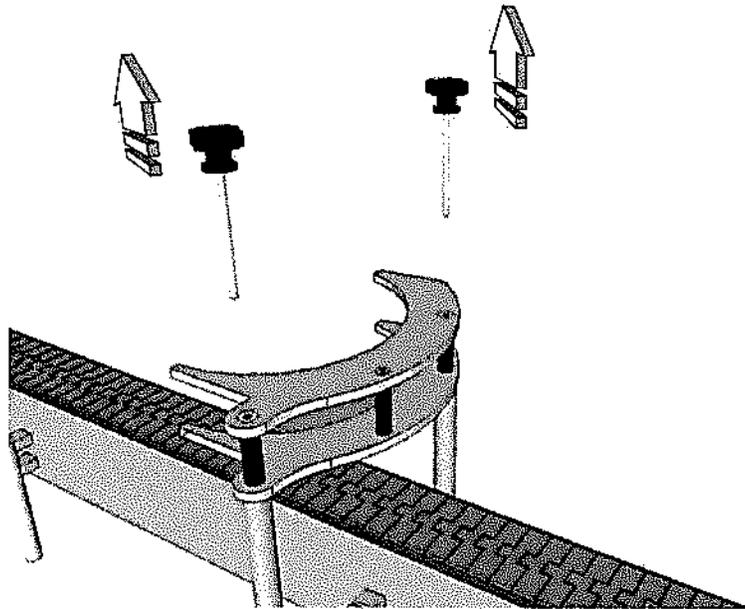

fig.11
- Remove the lock knobs and lift them upwards (fig.11):